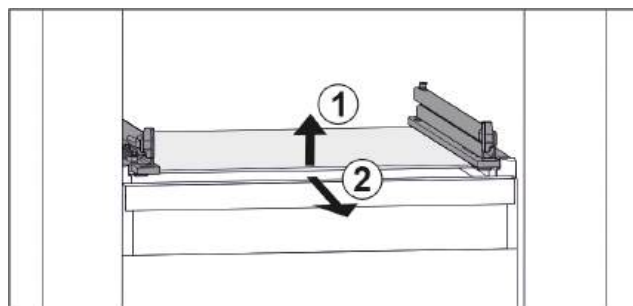

Fig. 111 Example illustration of glass shelf
- Lift glass shelf at the front. *Fig. 111 (1)*
- Take out glass shelf to the front. *Fig. 111 (2)*